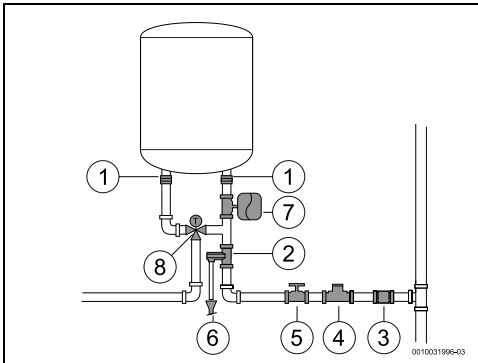

Fig. 13
- install a reduce valve (Fig. 13, [4]). The pressure relief valve is always triggered once the water pressure in the tank exceeds 8 bar (± 1 bar), and the discharge water then needs to be channelled off.
- install an expansion vessel (Fig. 13, [7]) to avoid opening the pressure relief valve so frequently. The volume of the expansion vessel must be equivalent to 5% of the appliance volume.